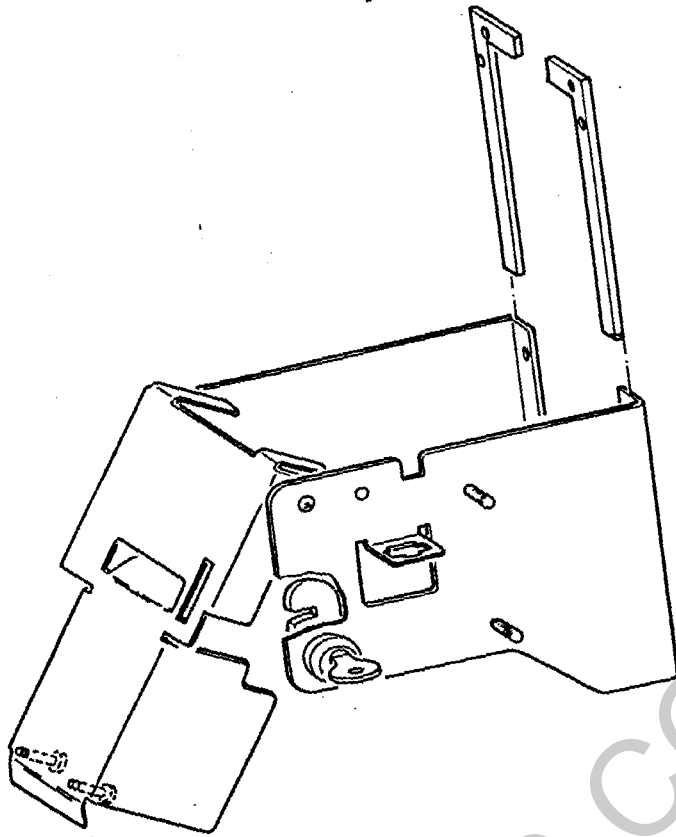

Figure 3
b. Set the switches with a retracted ball point pen or small screwdriver as shown in figure 3. Do not use a graphite pencil point. Replace the black cover when switches are set.
When installing a bill acceptor with 104mm (» inch) mouth width the 2 plastic corners (fig. 3) have to be removed before. According to fig. 2 this type of bill acceptor has to be mounted with screws and nuts (pos. 7,9+10).